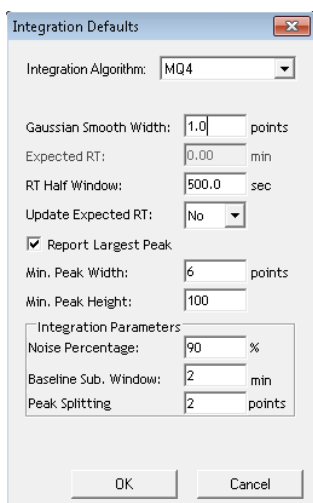

Figure B-4. Integration defaults for data processing the targeted lipid profiling data.
4. Click Edit then Project Integration Defaults. Set the integration defaults as shown in **Figure B-4**.